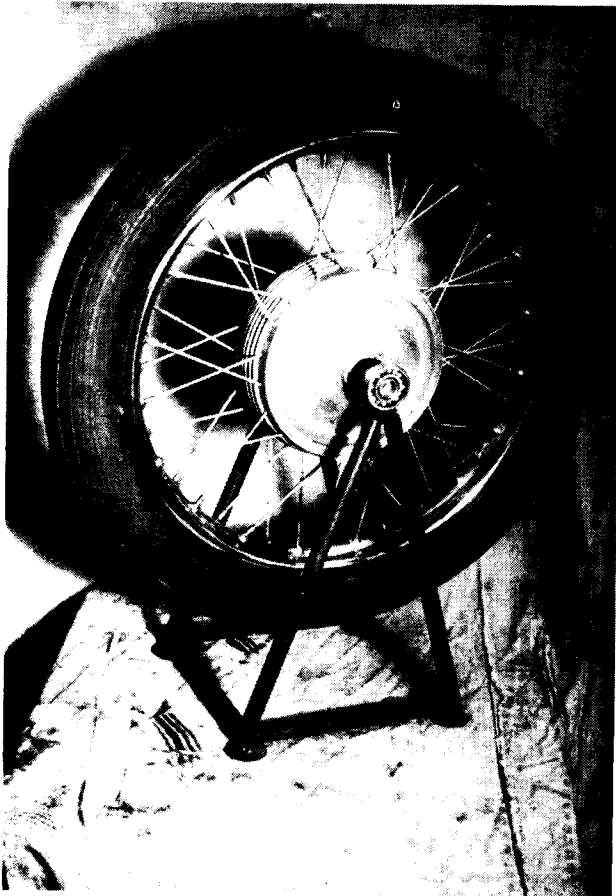

FIG. 46A Balancing the road wheels
- (1) Remove the oil seals.
- (2) Obtain two ball races with an internal diameter sufficiently large enough to take the wheel spindle, mount the wheel on two boxes as shown in fig. 46A.